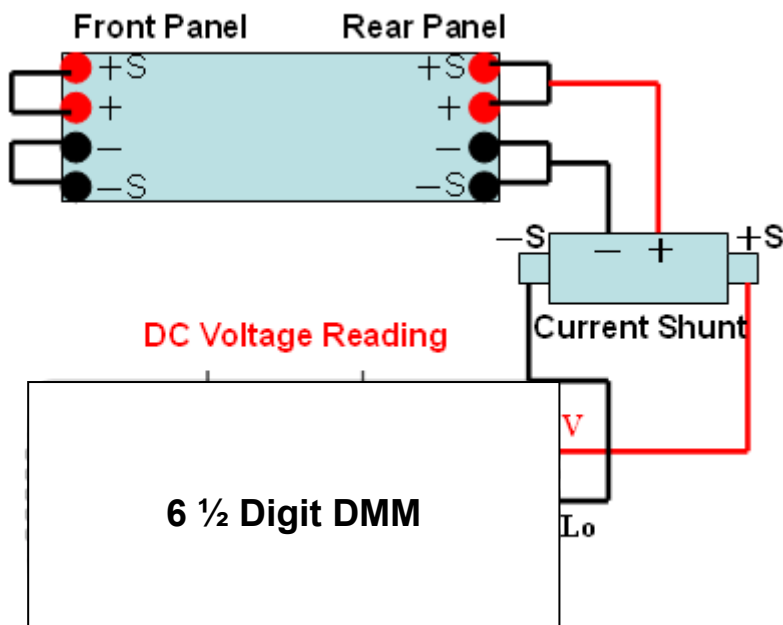

Figure 32- Current Calibration with Shunt
- If the maximum output current of the power supply is greater than the current limit of the DMM, then a current shunt must be used. The wire connections between the power supply and the DMM will be setup like Figure 32.